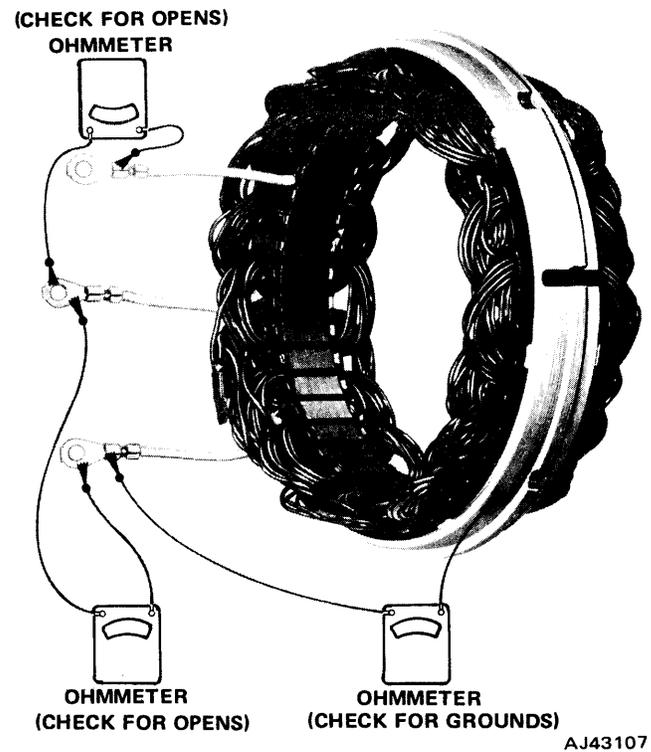

Fig. 3-30 Checking Stator
- (1) Check for grounded windings by connecting lamp or ohmmeter from any stator lead to frame. If lamp lights or ohmmeter reading is low, the stator is grounded (fig. 3-30).
- (2) Test for opens by successively connecting test lamp or ohmmeter between stator leads. If lamp fails to light or ohmmeter reading is high, there is an open in stator windings (fig. 3-30).
- (3) Locate short circuits in stator windings.
- (4) Replace stator which fails above test.